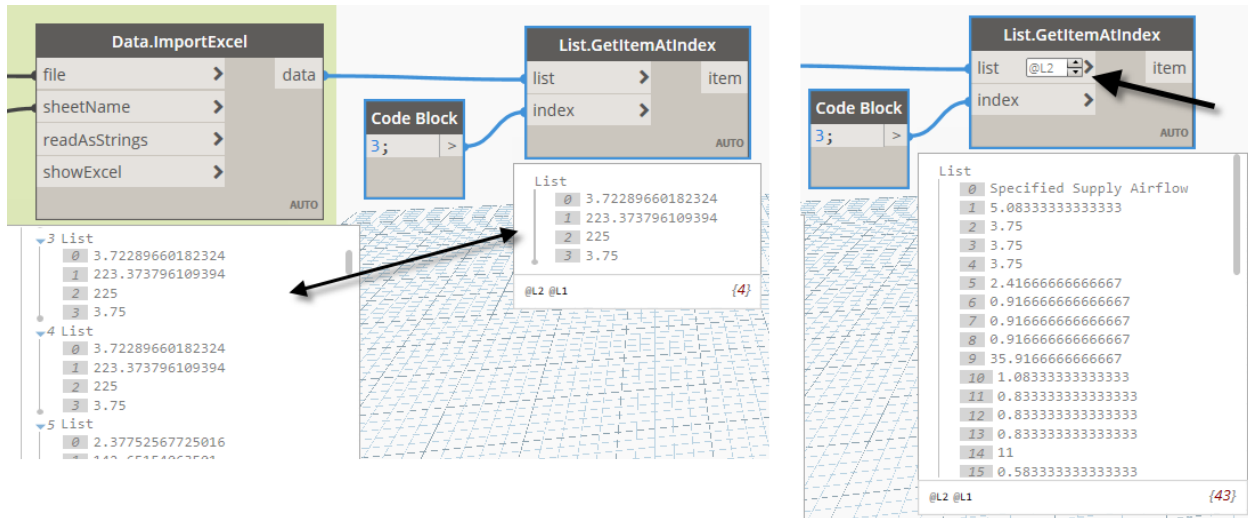

Figure 69
12. Run the graph and expand the preview bubble on the **GetItemAtIndex** node (see the left side of Figure 69).
13. Next to the ***list*** input, click the list at levels indicator and check the Use Levels checkbox. Leave it set to the default of @L2 and run the graph (this is index 3 from each L2 list) (see the right side of Figure 69).